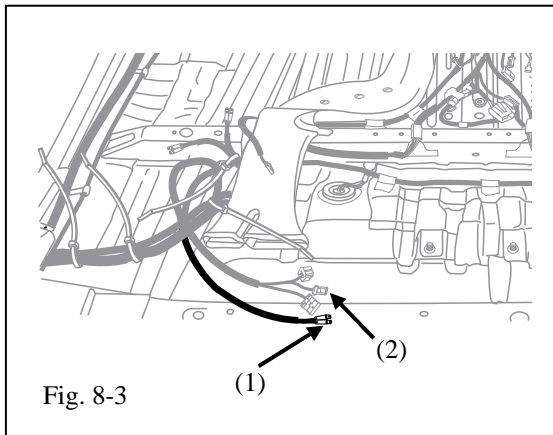

Fig. 8-3
(1) Align the blue and yellow connectors (1) on one end of the driver side extension harness to the connectors of the existing vehicle harness (2) under the driver seat location. (Fig. 8-3)